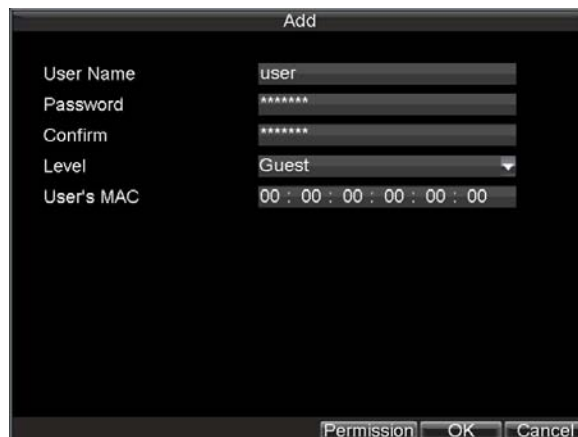

Figure5. Add User Menu
1. Select the Add button to enter the Add User menu, shown in Figure 5.